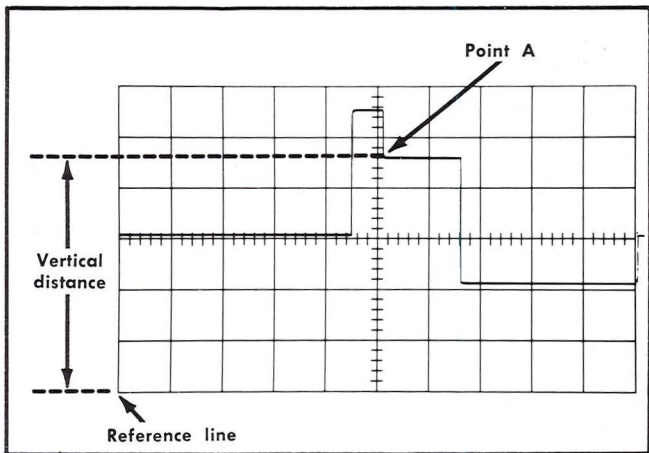

Fig. 3. Measuring instantaneous DC voltage with respect to a reference.
7. Measure the distance in divisions between the reference line and a point on the waveform at which the DC level is to be measured. For example, in Fig. 3 the measurement is made between the reference line and point A.
Example. Assume that the vertical distance measured is 4.6 divisions (see Fig. 3), the waveform is above the reference line, using a VOLTS/DIV setting of 2.